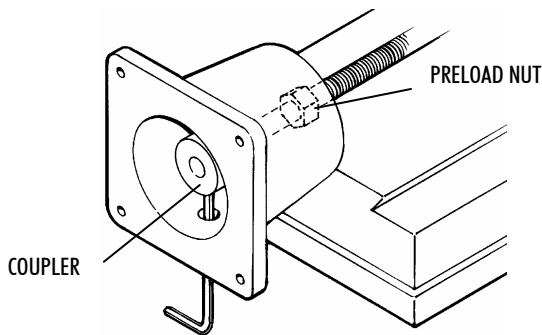
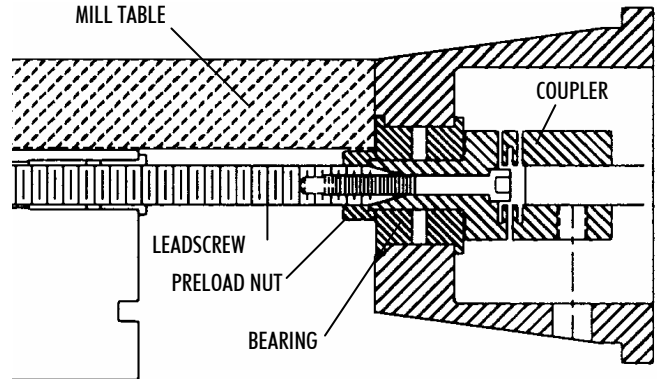

FIGURE 2—Using a hex key to keep the leadscrew from turning while tightening the 5-40 screw and preload nut.
FIGURE 3—A cross-section of the stepper motor mount shows how the coupler is attached to the leadscrew.
- 4) Using a 3/8" wrench, adjust the preload nut snugly against the end of the bearing. Tighten to remove all endplay. (See Figure 3 to understand how the nut preloads the bearings.) Turn the coupling by hand to make sure it turns freely, then put a little LocTite® on the threads behind the preload nut and let capillary action draw the fluid in. Figure 2 shows how to use a hex key through the hole in the mount to keep the coupler from turning while tightening the preload nut.